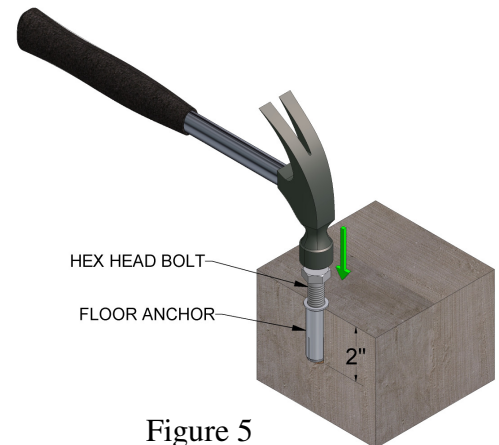

Figure 5
3. Turn a hex head bolt 3 full turns into a floor anchor, and insert it into the drilled hole (FIG 5).
4. Use the hammer to tap the top of the bolt until the floor anchor is flush with or just below the top of the concrete (FIG 5).